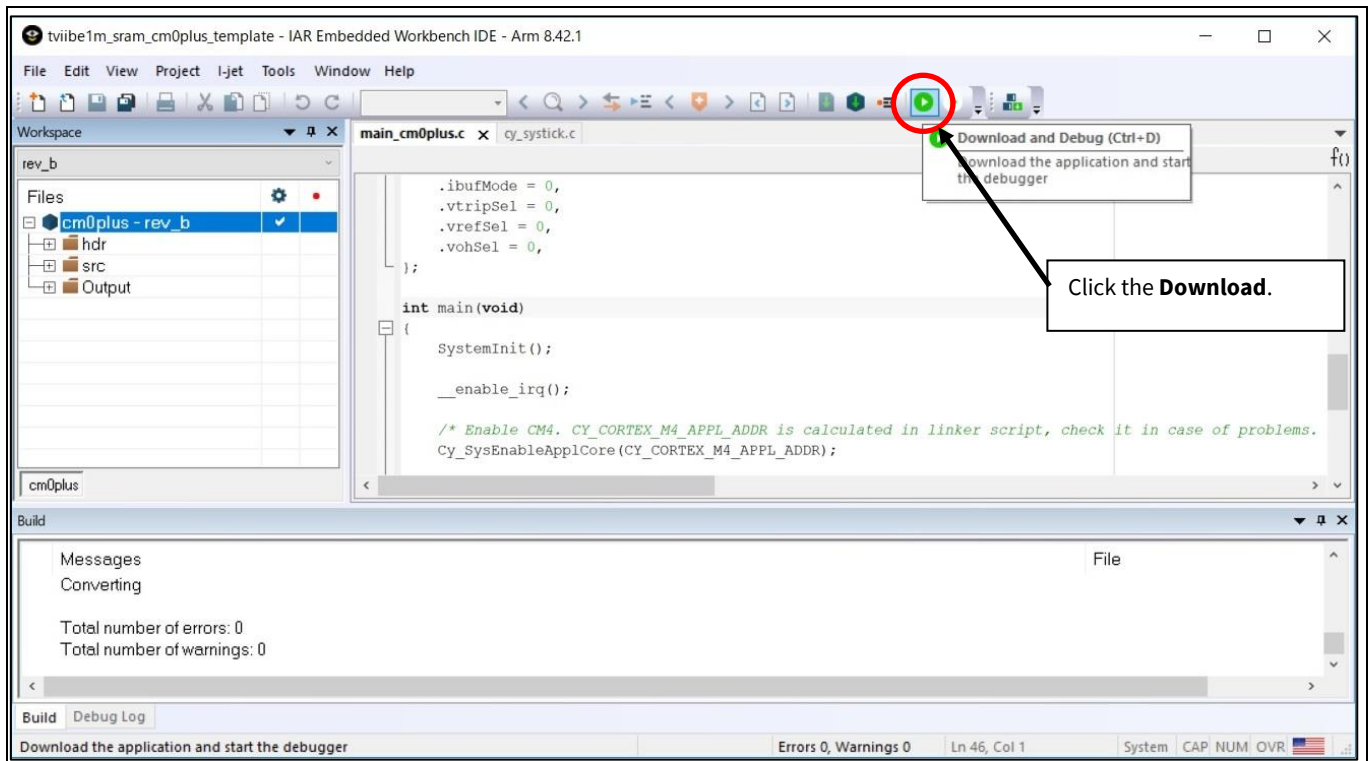

Figure 23 Debug the Project of SDL Project
3. To load the program to the RAM, click the **Download** icon as shown in **Figure 23**.